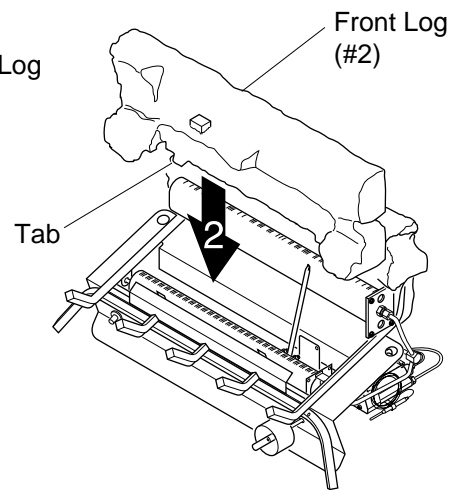

Figure 18 - Installing Front Log
2. Slide front log (#2) into place behind front burner. Make sure tabs at bottom of log are behind front burner (see Figure 18).